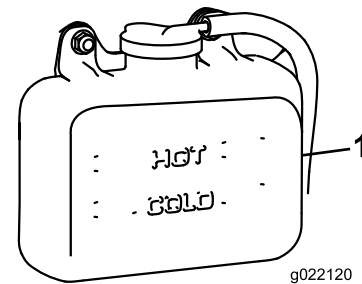

Figure 77
1. Check the level of the coolant in the expansion tank (Figure 77).